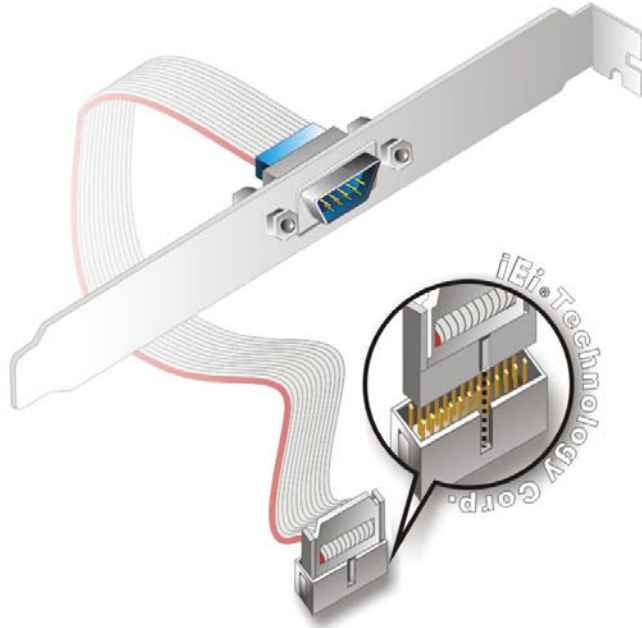

Figure 0-14: Single RS-232 Cable Installation
Step 2: Insert the cable connector. Insert the connector into the serial port box header. See **Figure 0-14**. A key on the front of the cable connectors ensures the connector can only be installed in one direction.